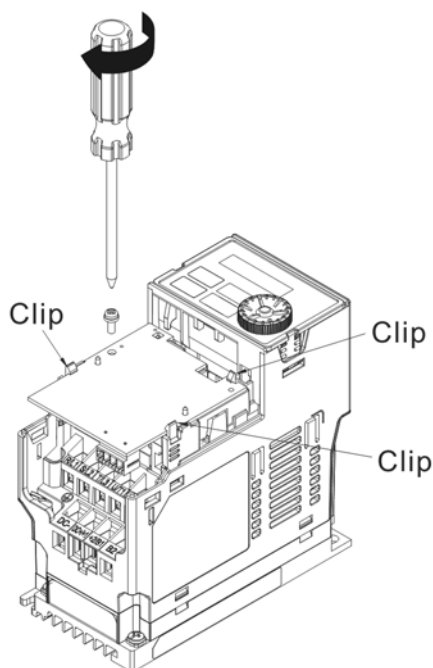

Figure 8-19
5. As shown in the Figure 8-19, make sure that three clips are properly engage the option card and then fasten the screw [Suggested torque value: 4–6 kg-cm / (3.5–5.2 lb-in.) / (0.39–0.59 Nm)].